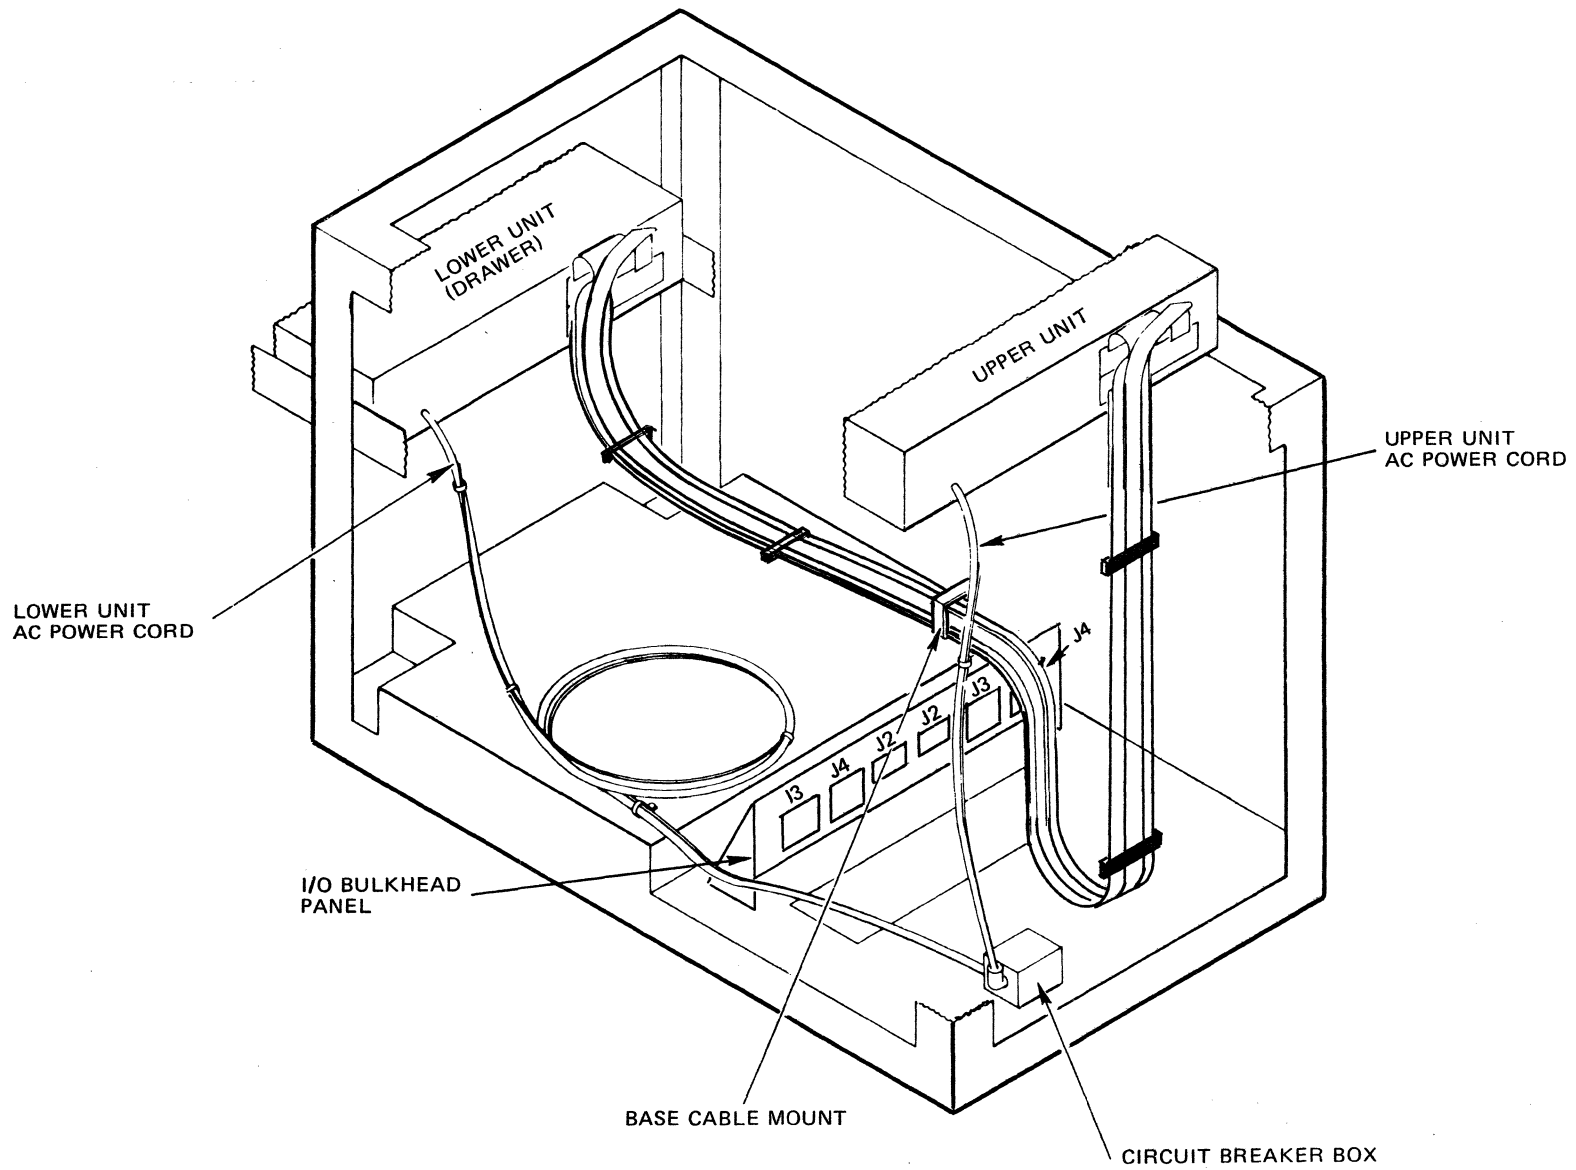

Figure 2-11 General Cabling of Expansion Drawer
2. Remove outer shell of right-angle connector (Table 2-3, item 5) by unfastening two screws.
3. Remove circuit breaker box cover (item 17) by removing three sets of attaching hardware (items 14, 15, and 16).
4. Loosen right-angle connector (item 5) from circuit breaker box (item 6), turn right-angle connector up to a 45° angle toward front of cabinet, and retighten right-angle connector to circuit breaker box.
5. Loosen cable clamp (item 8) holding ac power cord from upper unit of cabinet.
6. Detach circuit breaker (item 3) from its mounting by removing its attaching hardware (four screws).
8. Route drawer's ac power cord through right-angle connector and into circuit breaker box. Make a 360° service loop and place loop flat on bottom of cabinet (see Figure 2-11).
The connection of the I/O cable assemblies to the I/O bulkhead panel within the cabinet is as follows (see Figures 2-11 and 2-12):
The connection of the I/O cable assemblies to the expansion drawer is as follows (see Figure 2-11 and 2-12):
4. Within cabinet, pull group of three I/O cables attached to drawer back to base cable mount position in back of I/O bulkhead panel (see Figure 2-11). There should be a few inches of slack left in the three cables.
7. Place two pairs of plastic clamps on the three flat cables between logic cage clamp and base mount clamp. Adjust the three cables so they lie flat against frame (see Figure 2-11). This step is important to ensure that cable assembly will not snag when drawer is opened and closed.